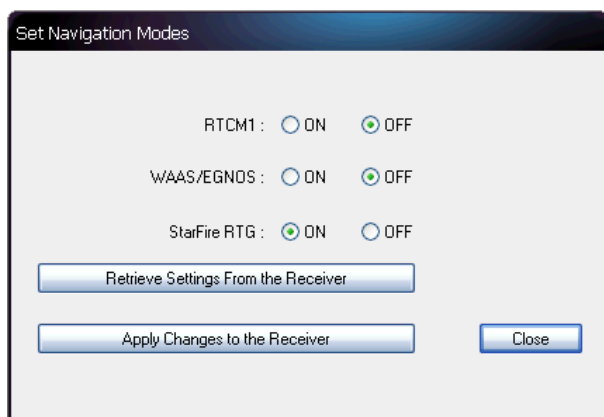

Figure 33: Set Navigation Modes/StarFire RTG ON
67. Click **Navigation Modes** on the **Receiver Setup** menu to open the **Set Navigation Modes** dialog box (see Figure 33).
Refer to Figure 33 for the steps below: